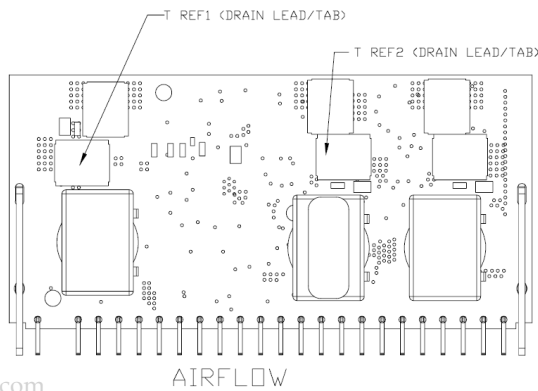

Figure 45. Temperature measurement locations
The thermal reference points, T_{ref1} and T_{ref2} used in the specifications are shown in Figure 45. For reliable operation this temperatures should not exceed 120 °C.